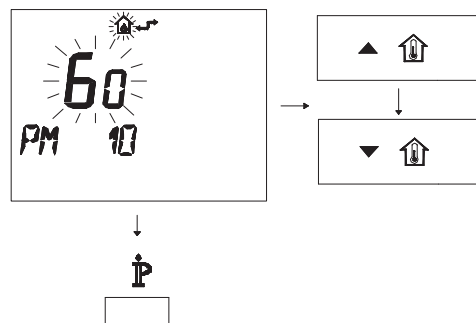

Fig. 7.39
- To modify the programmed SET, act on buttons or and wait for the number programmed to flash (Fig. 7.39).